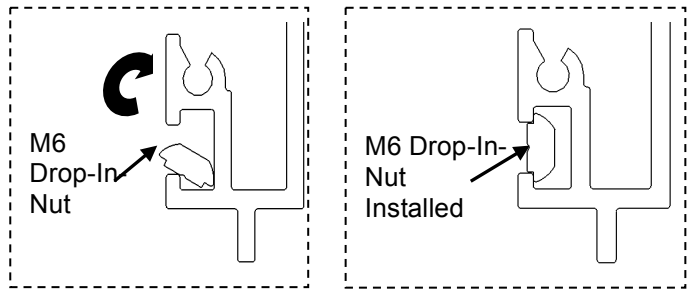

Fig. 6
4. Insert Drop-In Nuts in top slide for top bracket (Fig. 6).
8. Insert Drop-In Nuts in bottom slide for bottom bracket (Fig. 6).